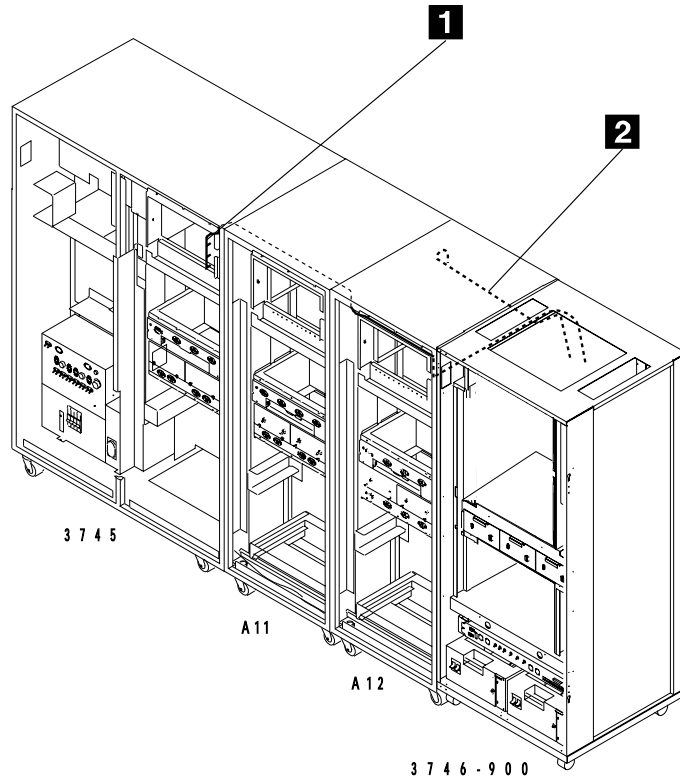

Figure 4-32. Cabling From the 3746-900 to the 3745 and 3746-A12 (Front View)
- Step 16. \_\_\_\_ Unroll and route these DMA cables through the upper side windows through the 3746-A11 and through the 3746-A12 from the 3746-900 to the 3745 at board 01G-A1 (see Figure 4-32 on page 4-34). Fold the DMA cables going to W02, W03, W04 and W05 according to fold marks on these cables.